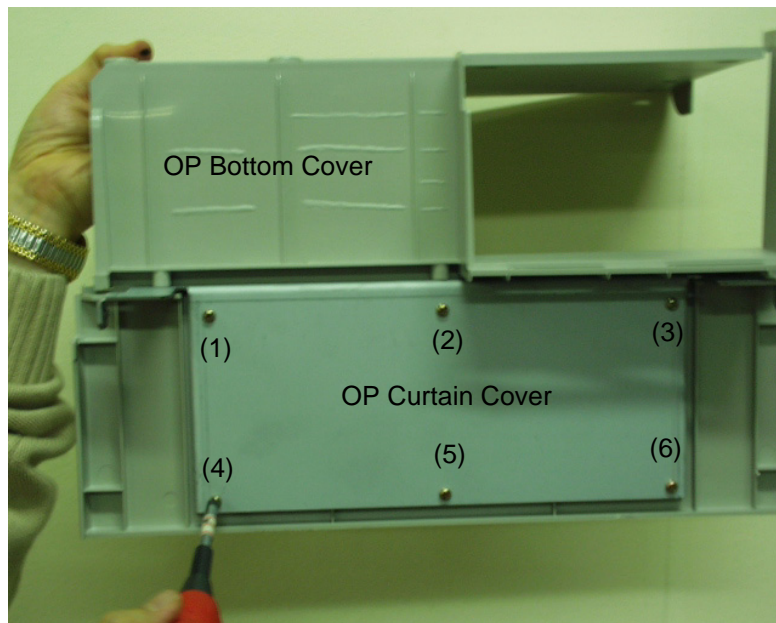

Figure 8-64 Unscrew 6 screws to remove the OP Curtain Cover
- 8.) Unscrew six screws from the OP Curtain Cover. Refer to Figure 8-64.